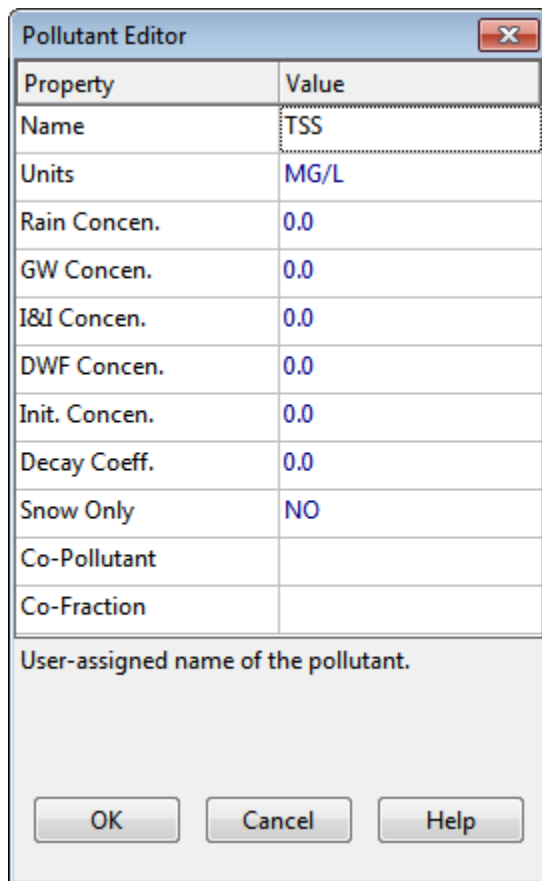

Figure 2-19 Pollutant editor dialog
3. In the Pollutant Editor dialog that appears (see Figure 2-19), enter **TSS** for the pollutant name and leave the other data fields at their default settings.